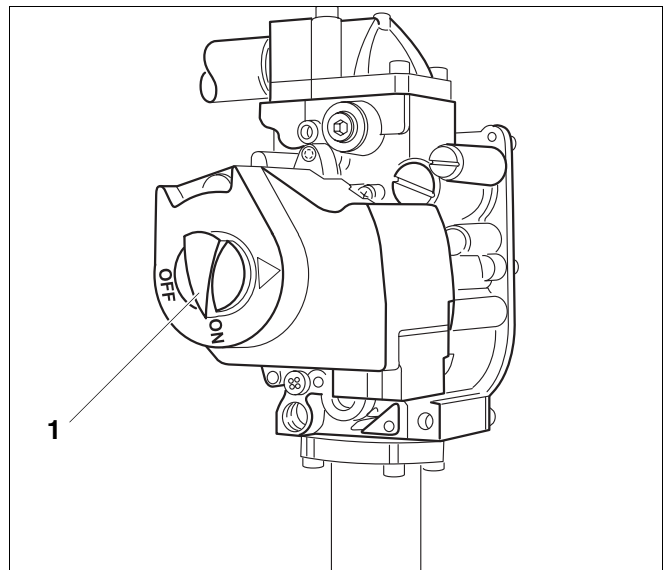

Fig. 3 Gas valve
- Never use excessive force, when adjusting the gas control knob (→ Fig. 3).